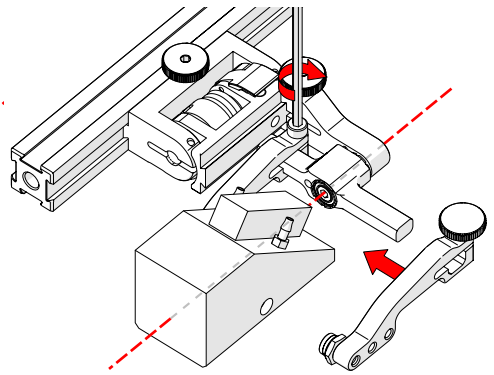

Fig. 152 - Place wedge
7. Position the wedge on the inner probe holder arm (Fig. 152).